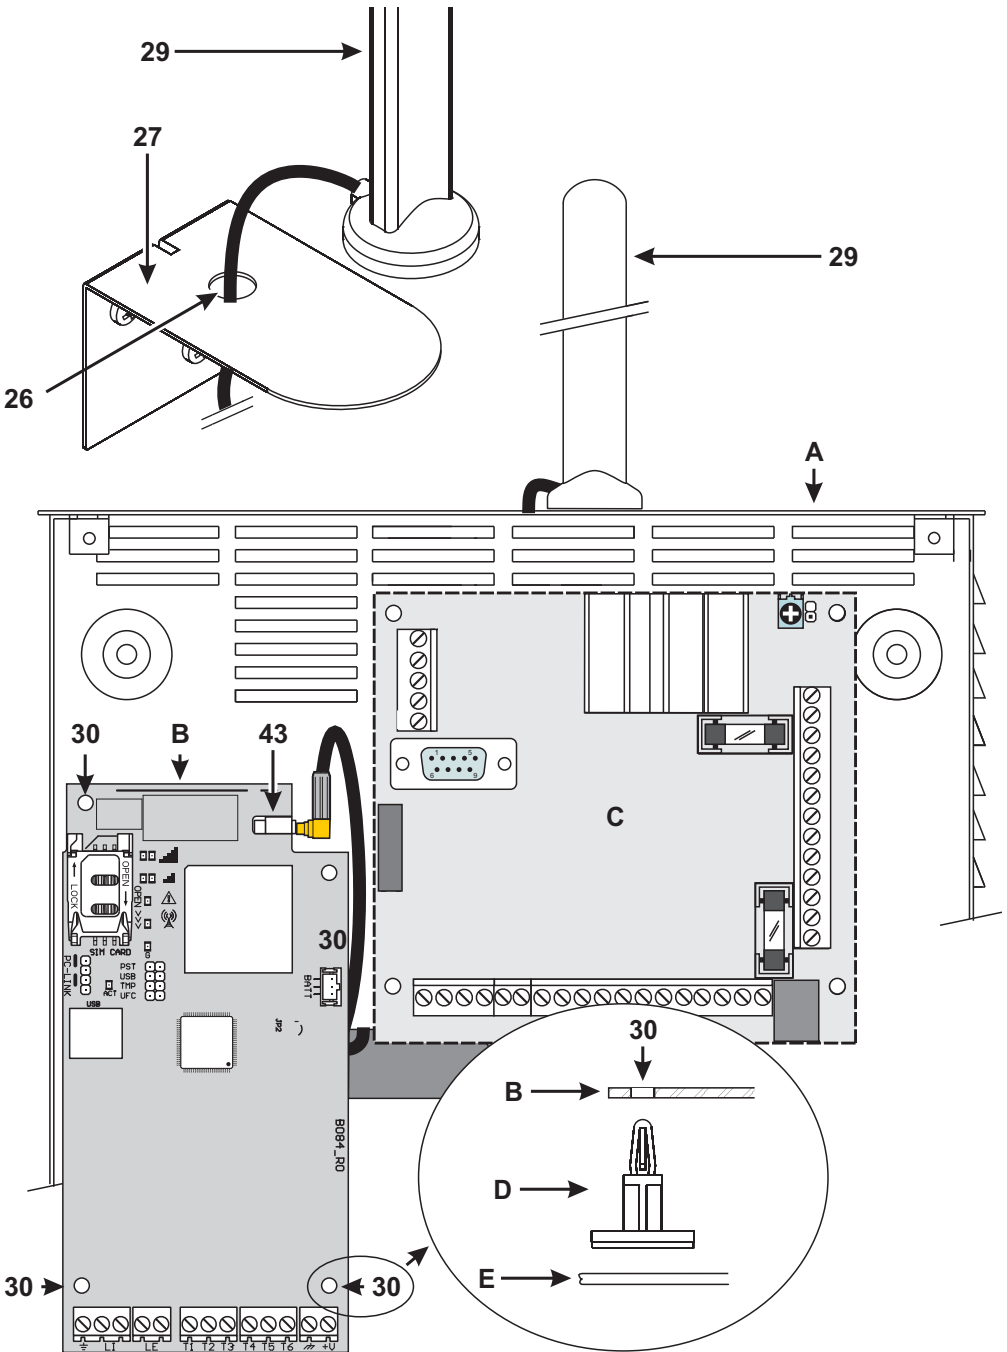

Figure 3 – Installing the kit communicator: **A)** metal housing; **B)** communicator board; **C)** panel motherboard; **D)** adhesive plastic mount; **E)** base of metal housing.
To install the kit version, proceed as described below and in figure 3.
3. Mount the 4 provided adhesive plastic mounts into holes **30** of the communicator, as shown in figure 3.